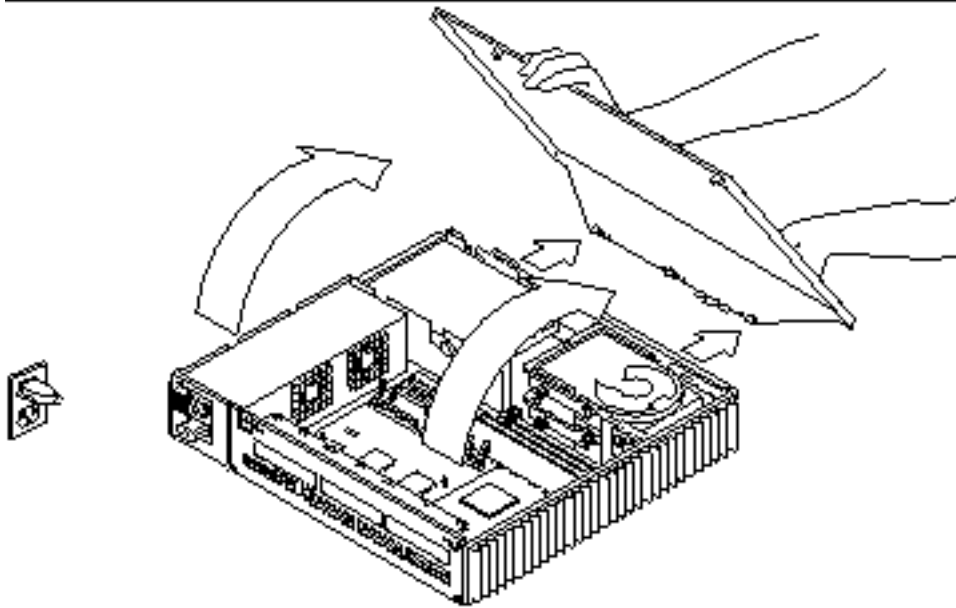

Figure 7-2 Removing the Cover
4. Lift the cover free of the chassis as shown in Figure 7-2.